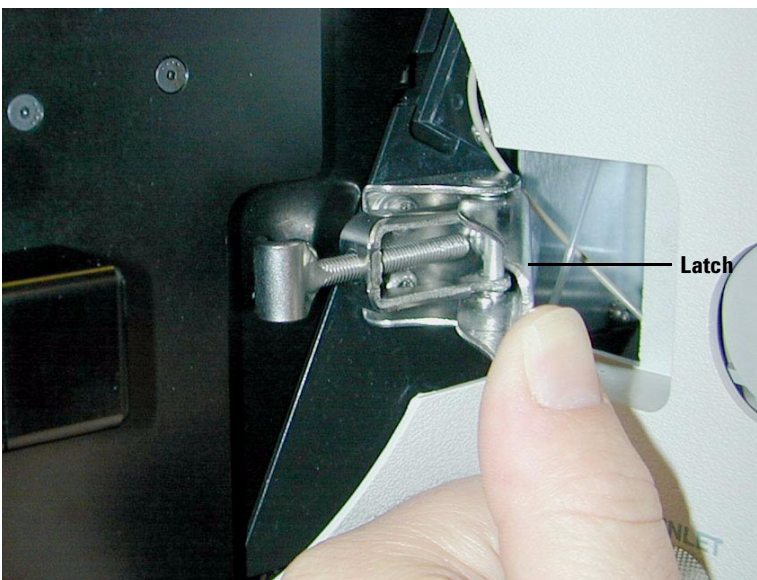

Figure 115 Secure both halves of the Source, and anchor it by latching it to the LC/MSD instrument
- 16 Secure the desolvation assembly latch on the PDF-MALDI Source to a very tight fit. See Figure 115.